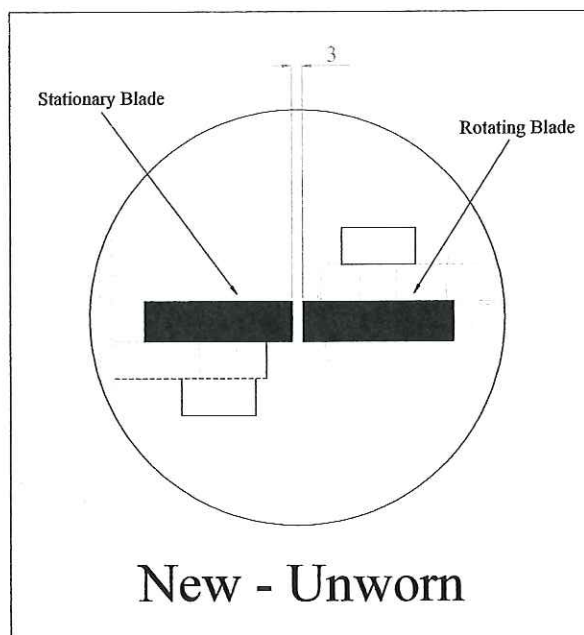

Figure 6A
- Check the tolerance between the rotating and stationary blades; if it is outside of that shown in Fig. 6a & 6b then replace the stationary blades as follows.